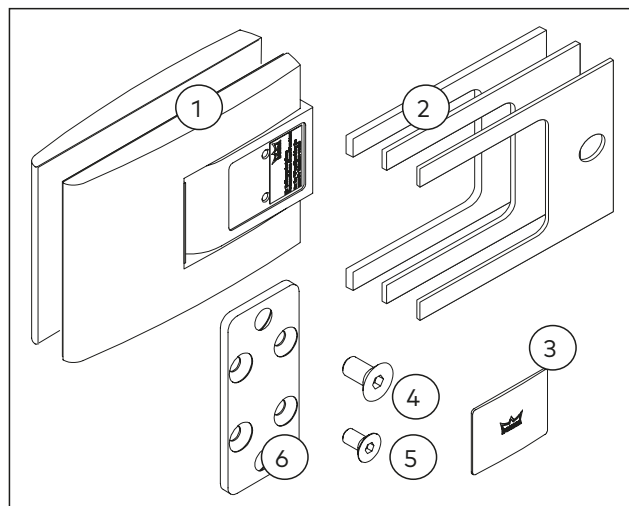

Fig. 43 Scope of delivery for the frame with embedded mounting plate
- ▶ 2 x double action hinge (Fig. 43/ 1)
- ▶ Gaskets each 4 x 3 with 3 various thickness levels: 1 mm, 2 mm, 3 mm (Fig. 43/ 2)
- ▶ 12 x cover cap in 3 different colors (Fig. 43/ 3)
- ▶ 4 x countersunk screw M8 x 16 (Fig. 43/ 4)
- ▶ 8 x countersunk screw M6 x 12 (Fig. 43/ 5)
- ▶ 2 x mounting plate (Fig. 43/ 6)